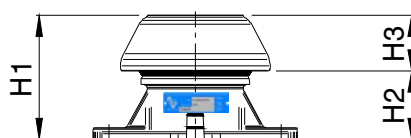

Figure 4
**Upon initial loading, the overall height (H1) of each mount should be greater than 137mm or if measuring from the base to the underside of the top casting (H2) this should be greater than 74.6mm as shown in figure 4 and the table below.**